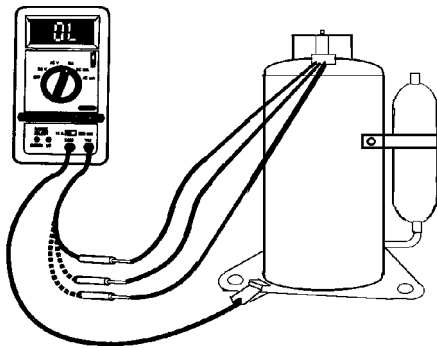

FIGURE 31 — GROUNDED WINDINGS TEST
- Next, perform a grounded windings test to test the resistance individually of each wire to the shell of the compressor. The paint on the compressor can prevent good contact between the probe and the metal. The paint should be removed from a small section of the shell of the compressor to ensure good contact by the meter probe. The voltmeter should be set to at least the 100X ohm level. The measured resistance between each wire and ground should be infinite or O.L. on the readout. If there is measurable resistance one of the windings is likely shorted to ground. See Figure 31.